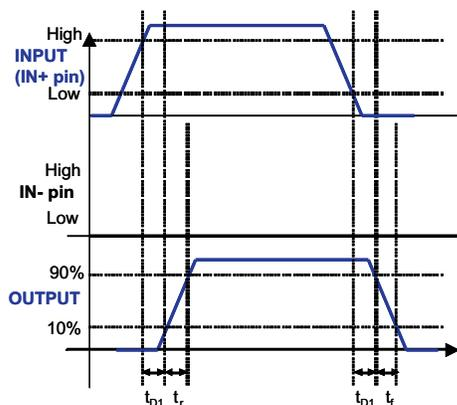
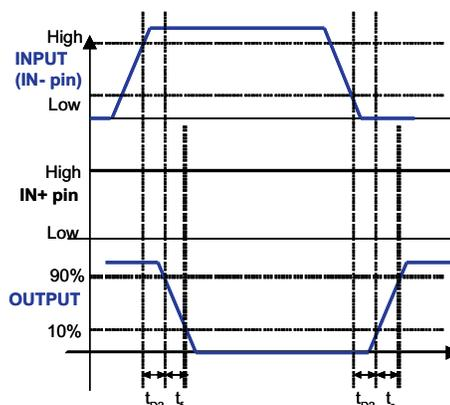
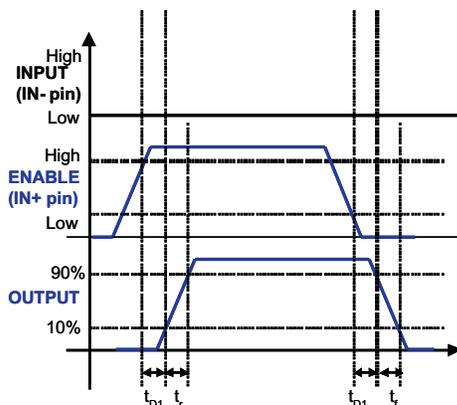

Figure 1. Non-Inverting Configuration (PWM Input to IN+ pin (IN- pin tied to GND))
Figure 2. Inverting Configuration (PWM input to IN- pin (IN+ pin tied to VDD))
Figure 3. Enable and Disable Function Using IN+ Pin (Enable and disable signal applied to IN+ pin, PWM input to IN- pin)
(1) See timing diagrams in Figure 1, Figure 2, Figure 3 and Figure 4.